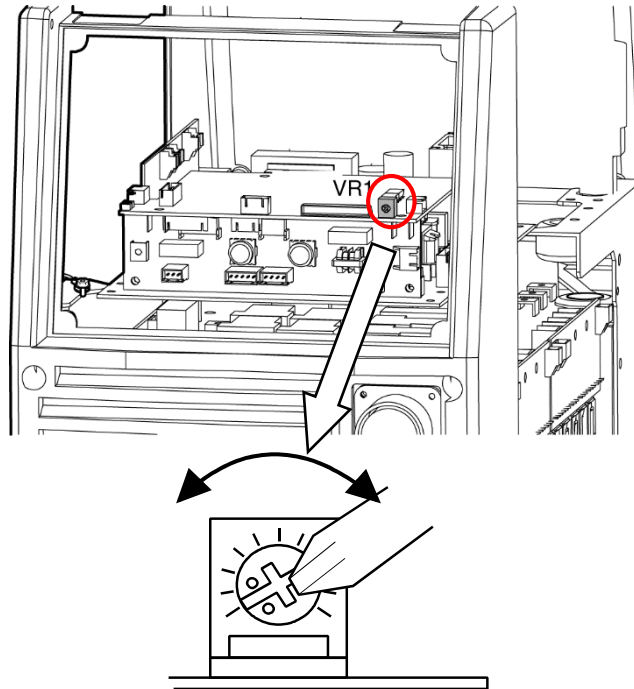

Figure 6-3 : VRD ON/OFF Step D
c) Turning the VRD ON/OFF (see Figure 6-3).